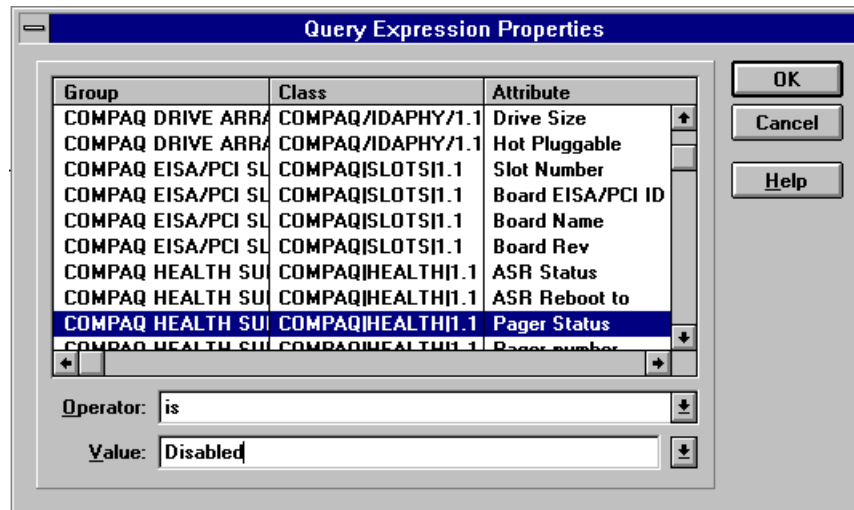

Figure 6-3. Finding the Pager Status attribute
6. Scroll through the list until you find the *Pager Status* attribute. An example of the Query Expression Properties window is shown in Figure 6-3.